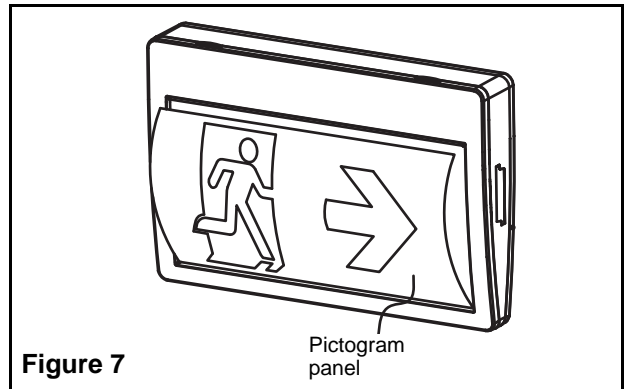

Figure 7
7. Install the appropriate pictogram panel into the faceplate by inserting the bottom of the panel into the bottom of the faceplate then insert the top of the panel into the top of the faceplate (see fig.7).